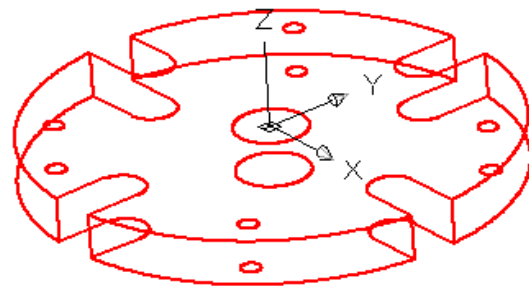

Figure Step 8
Step 8 Draw the vertical lines to complete the wireframe model as shown to Figure Step 8.